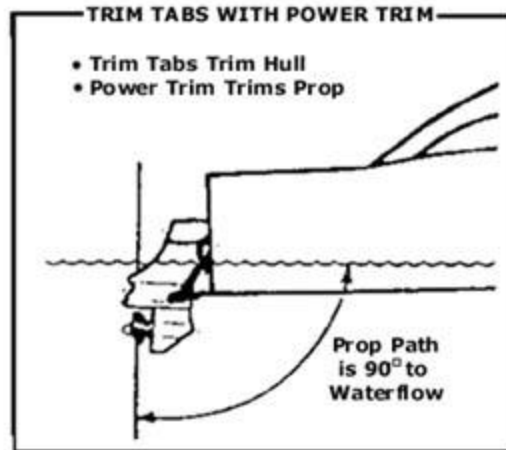

Figure 7
3. If necessary, re-adjust the trim tabs to "fine tune" (figure 7). Insta-Trim boat Leveler Tabs let you get the most out of your power trim because the trim tabs are trimming the hull while the power trim is trimming the prop.